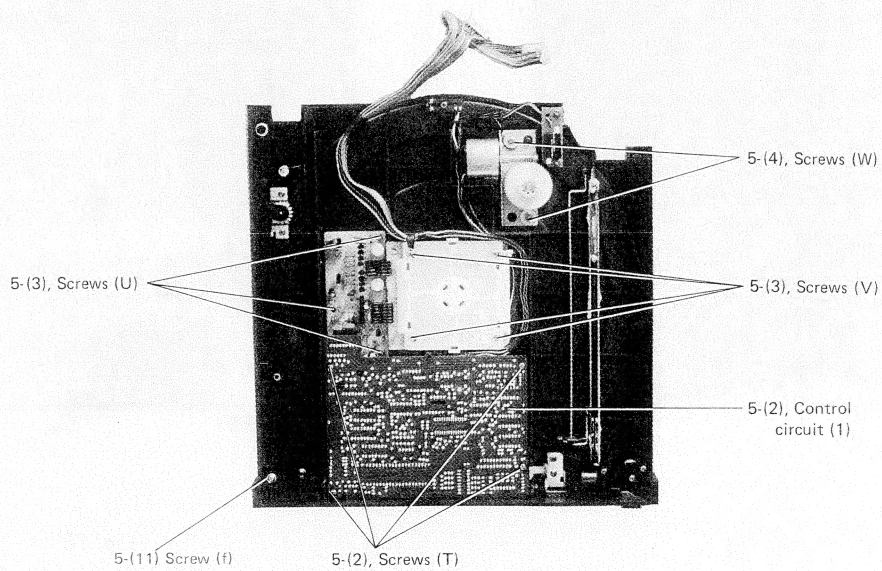

Fig. 12
- (2) Dismount control circuit ass'y (1). (See fig. 12, 13)
- 1. Remove 4 pcs. of screws (T) from the control circuit (1). (See fig. 12)
- (3) Dismount main motor. (See fig. 12, 13)
Remove 3 pcs. of screws (U) and 4 pcs. of screws (V) from the PWB ass'y so that the motor can be dismounted. (See fig. 12)
- (4) Dismount mechanism of drawer. (See fig. 12, 13)
- (11) Hinge retainer (1) and hinge plate ass'y (2) (See fig. 12)